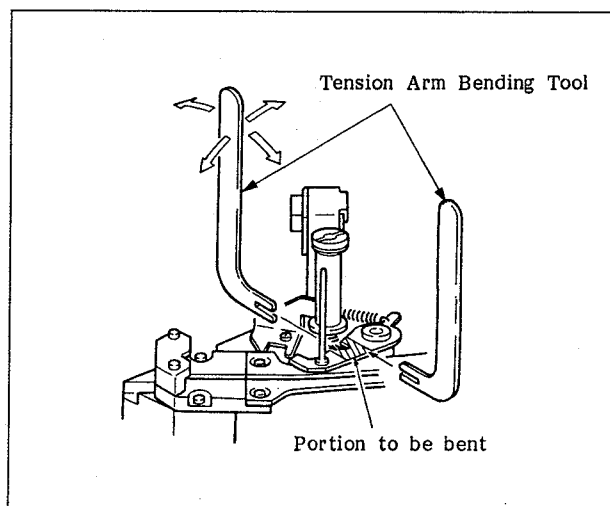

Fig. 6-54 Adjustment of the Inclination of the Tension Arm Shaft
Then, check that the clearance between the tension regulator shaft and the S plate tool in both, the upper and the lower portions is less than  $50\text{ }\mu\text{m}$ . If it is not, adjust it by bending the portion shown in Figure 6-54 by the tension arm bending tool.
6. In a similar manner, check that the clearance between the tension regulator shaft and the S plate tool is less than  $50\text{ }\mu\text{m}$  when the S plate tool fits against the S3 guide roller without clearance, as shown in Figure 6-53(b). If it is not, adjust it by bending the portion shown in Figure 6-54.